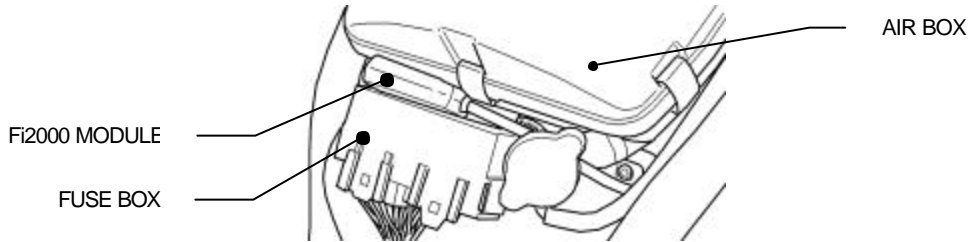
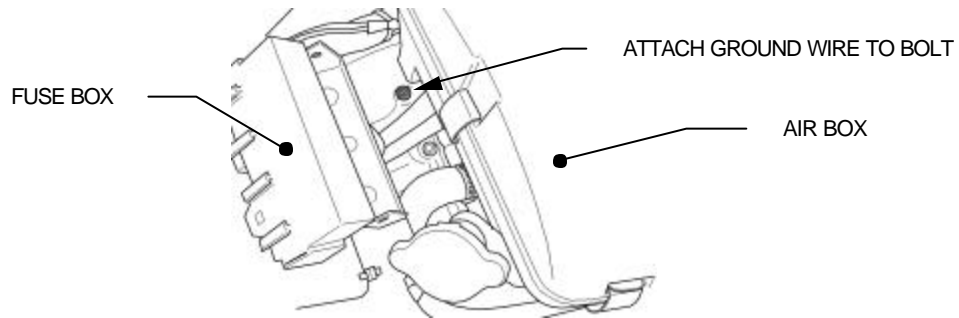

FIGURE 1
FIGURE 4
2. Lay the Fi2000 module in place, but do not attach it to the motorcycle, and run the wiring harness over the radiator cap neck and drop the wires down inside the right frame rail (see figure 1).
7. Raise the fuse box and attach the black wire to the bolt shown in figure 4. Reinstall fuse box.
8. Before re-installing the gas tank cover, verify your connections. Remove the door from the Fi2000 box to expose the LED's. Verify the wire connections by (1) turning the ignition on, prior to starting, and see if all three LED's are on steady. If you have no light, your ground connection (BLACK wire) has not made proper contact or your front injector connection is not complete. (2) After achieving a steady light from all three LED's, start the motorcycle, wait 15 seconds and let it idle, the green light should now be the only LED on. If all three LED's are still on after start up, verify you have attached the injector connectors correctly. Reattach the door when finished. **Note:** Make sure the ignition is turn off before changing any connection.
9. Remove the backing from the Velcro and attach the Fi2000 to the air box base as shown in fig 1.